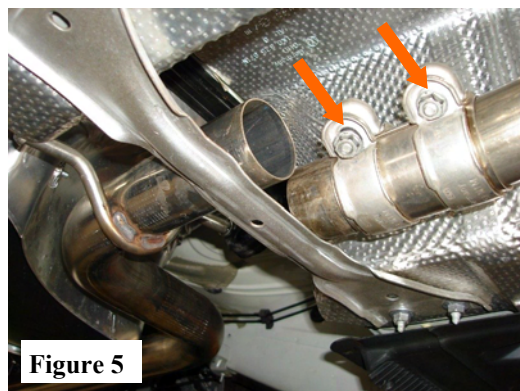

Figure 5
2. Position the front pipe assembly and insert your new exhaust pipe into the OE pipe. Connect the hangar into the OE rubber isolator. Slide and position the clamp with the bolts accessible to tighten. DO NOT tighten these bolts. (See Fig.5)